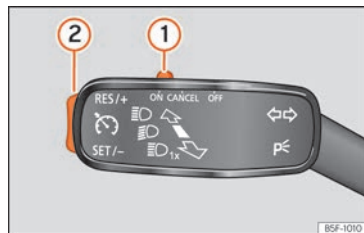

Fig. 42 Left of the steering column: CCS switch and controls.
- Switching on the CCS: Move switch »» Fig. 42 ① to **ON**. The system is on. If no speed has been programmed, the system will not control it.
- Activate the CCS: Press button »» Fig. 42 ② in the **SET/-** area. The current speed is memorised and controlled.
- Temporarily switching off the CCS: Move switch »» Fig. 42 ① to **CANCEL** or push the brake. The cruise control system is switched off temporarily.
- Reactivating the CCS: Press button »» Fig. 42 ② in **RES/+**. The memorised speed is saved and controlled again.
- Increasing stored speed during CCS regulation: press button ② in **RES/+**. The vehicle accelerates until the new stored speed.
- Reducing stored speed during CCS regulation: press button ② in **SET/-** to lower the speed by 1 km/h (1 mph). Speed is reduced until reaching the new stored speed.
- Switching off the CCS: Move switch »» Fig. 42 ① to **OFF**. The system is disconnected and the memorised speed is deleted.